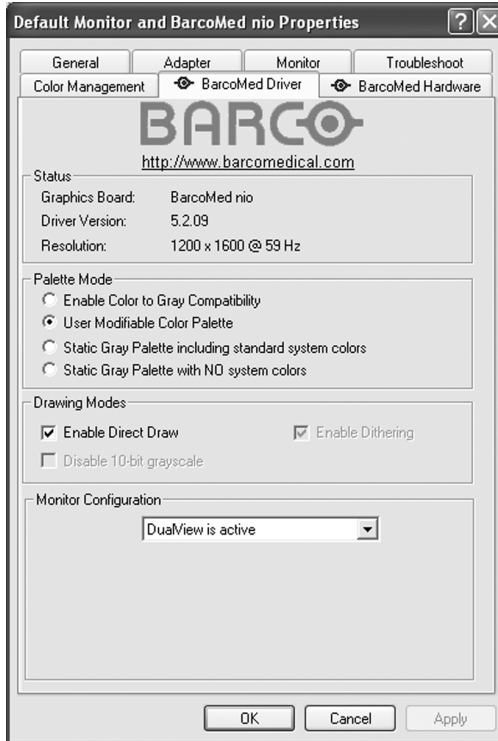

Figure 36: BarcoMed Driver Tab under Windows 2000 and Windows XP
2. Under Windows 2000 or Windows XP, click on "**Settings**" tab. Double click on the **rectangle** that represents the Barco display whose settings you wish to change to bring up its property page. Click on the "BarcoMed Driver" tab (see figure 36 on page 67).